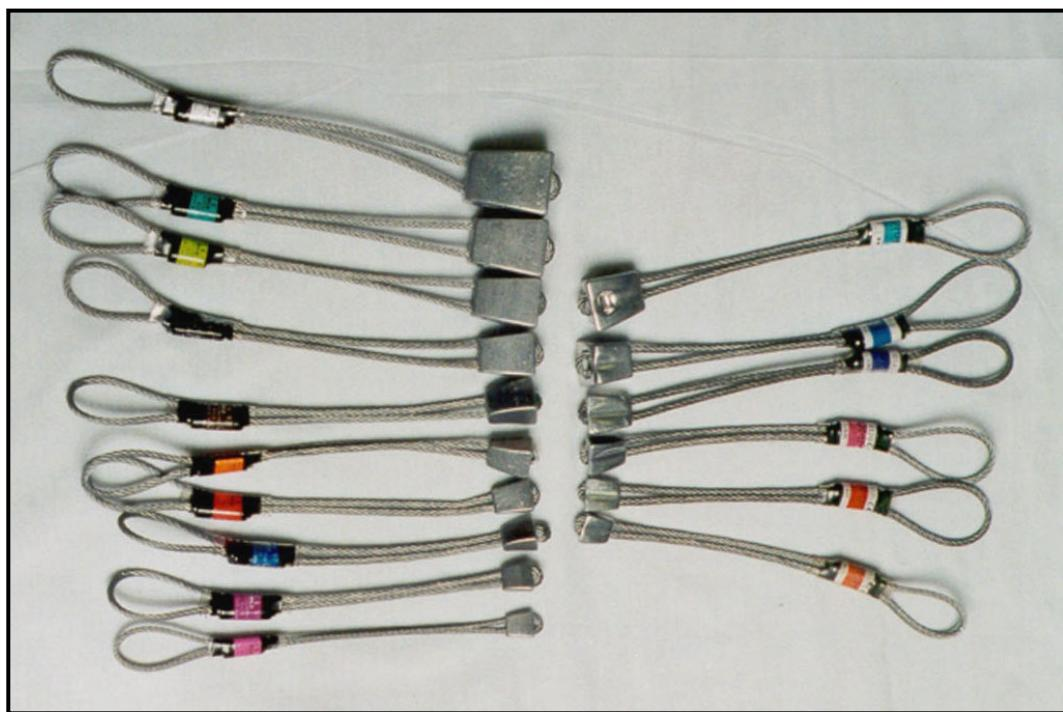

Figure 3-15. Chocks.
d. **Chocks.** “Chocks” is a generic term used to describe the various types of artificial protection other than bolts or pitons. Chocks are essentially a tapered metal wedge constructed in various sizes to fit different sized openings in the rock (Figure 3-15). The design of a chock will determine whether it fits into one of two categories—wedges or cams. A wedge holds by wedging into a constricting crack in the rock. A cam holds by slightly rotating in a crack, creating a camming action that lodges the chock in the crack or pocket. Some chocks are manufactured to perform either in the wedging mode or the camming mode. One of the chocks that falls into the category of both a wedge and cam is the hexagonal-shaped or “hex” chock. This type of chock is versatile and comes with either a cable loop or is tied with cord or webbing. All chocks come in different sizes to fit varying widths of cracks. Most chocks come with a wired loop that is stronger than cord and allows for easier placement. Bigger chocks can be threaded with cord or webbing if the user ties the chock himself. Care should be taken to place tubing in the chock before threading the cord. The cord used with chocks is designed to be stiffer and stronger than regular cord and is typically made of Kevlar. The advantage of using a chock rather than a piton is that a climber can carry many different sizes and use them repeatedly.